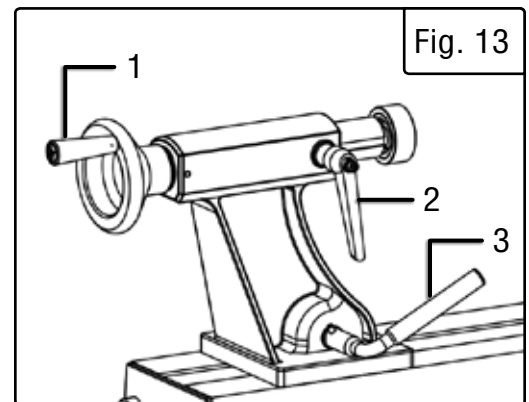

Fig. 13
1. Loosen the tailstock locking lever (Fig. 13 - 3) and slide the tailstock into the desired position. Retighten the locking lever.
2. The quill locking handle (Fig. 13 - 2) locks and unlocks the quill. Use the handwheel (Fig. 13 - 1) to advance and retract the quill. Retighten the quill locking handle.